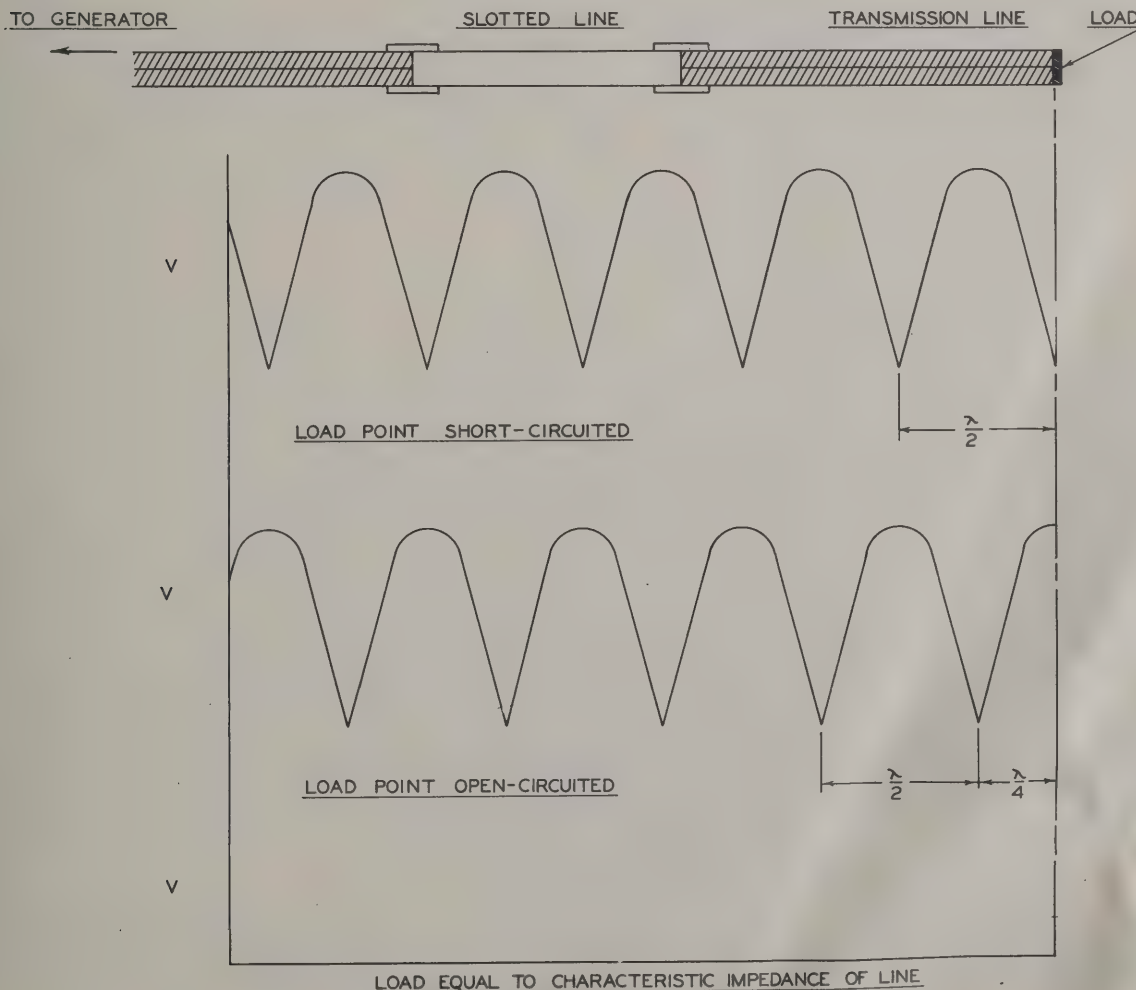

Figure 11. Variation of Voltage along a Line
c. A transmission line is said to have standing waves along it, if the r-f voltage or current increases and decreases as one proceeds along the line. Standing waves of voltage along an open-circuited and a short-circuited line are shown in Figure 11. In a pattern of standing waves the maximums (or minimums) are spaced one-half wavelength apart.